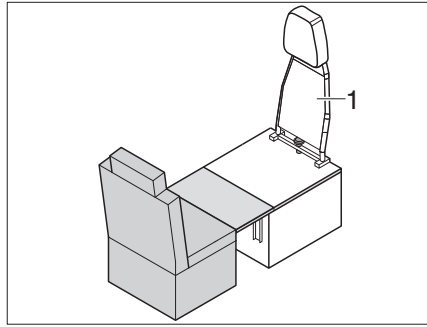

Fig. 211 Driving - sleeping conversion
- Remove the backrest (Fig. 211,1) from the individual seat (see Chapter 7.8.7).